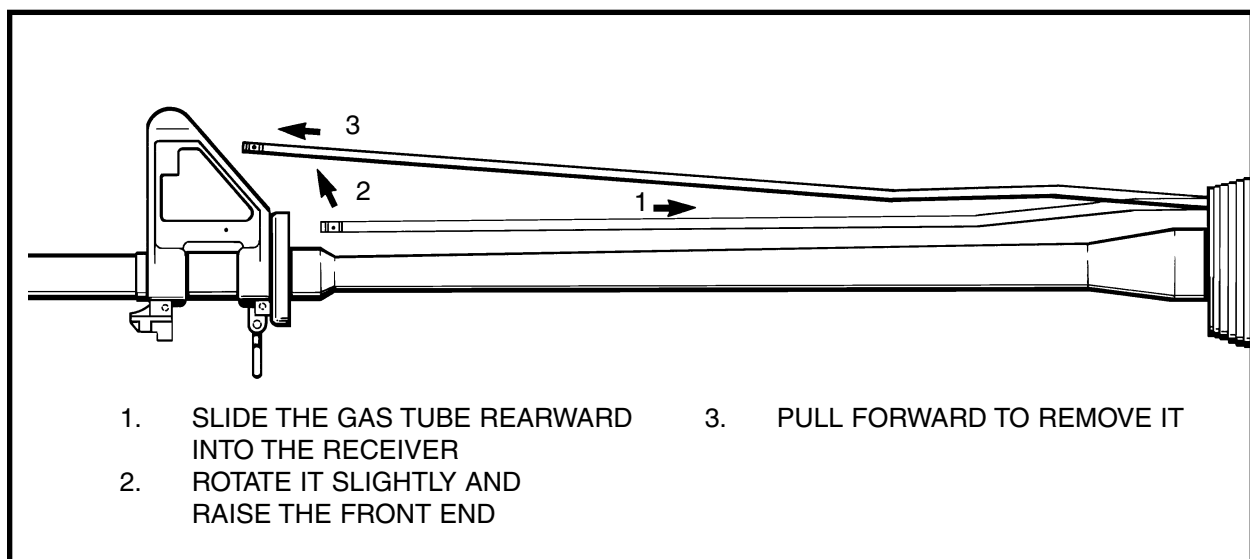

Figure 3-2-12 Removing the Gas Tube
- (2) Slide the gas tube rearward into the receiver (1); rotate it slightly and raise the front end (2); and pull forward to remove it (3). See Figure 3-2-12.